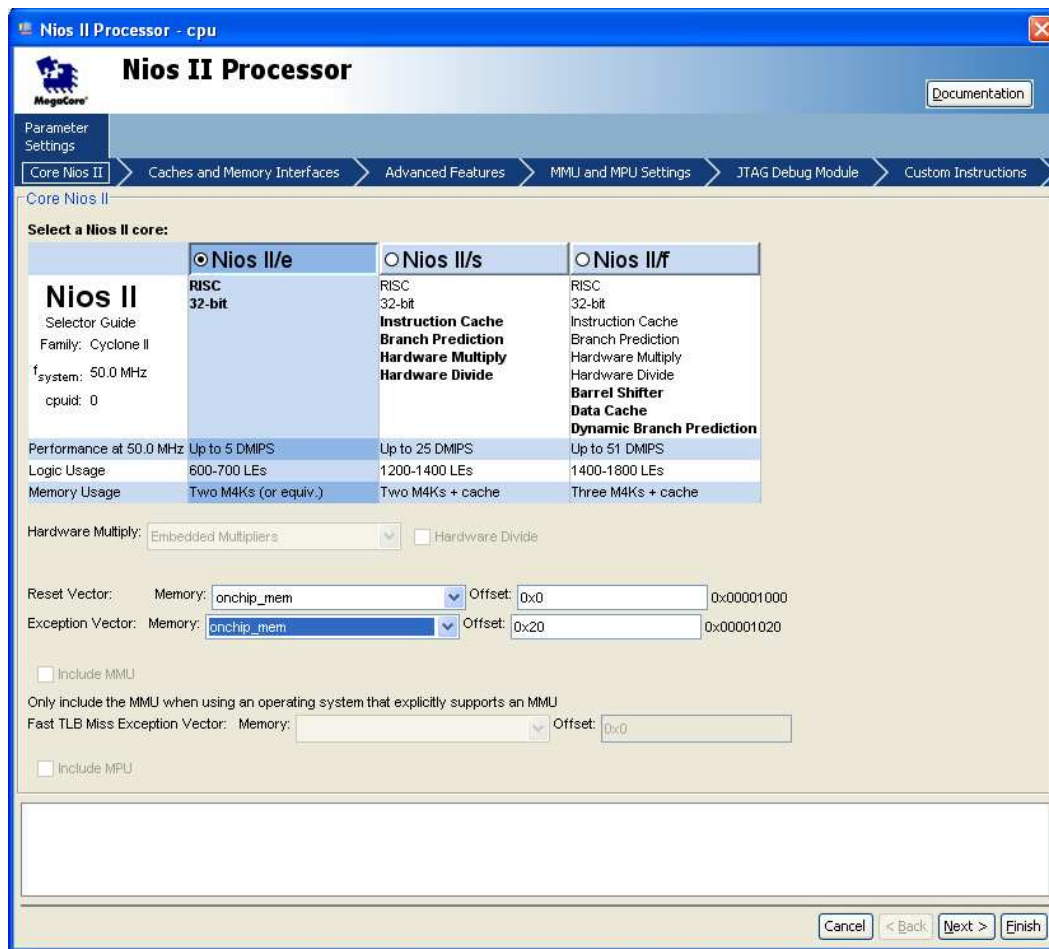

Figure 15. Define the reset vector and exception vector.
- Right-click on the cpu and then select **Edit** to reach the window in Figure 15